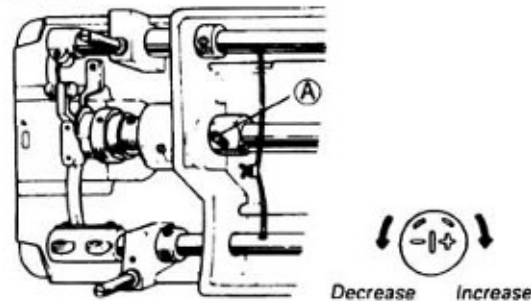

Fig.7
7. Adjustment of the hook lubrication (Fig.7):